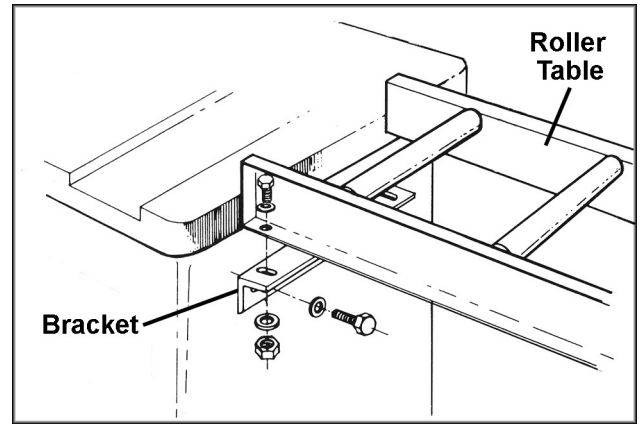

FIGURE 10
1. Mount an angle bracket to the pre-drilled holes in the side of the saw cabinet with four M8 x 20 hex cap screws and four M8 flat washers (Fig. 10). Do not fully tighten yet.
4. Flip the roller table right-side up and mount it to the angle bracket on the cabinet as shown in Figure 10. Use two M8 x 25 screws, four M8 flat washers and two M8 hex nuts. Do not fully tighten yet.